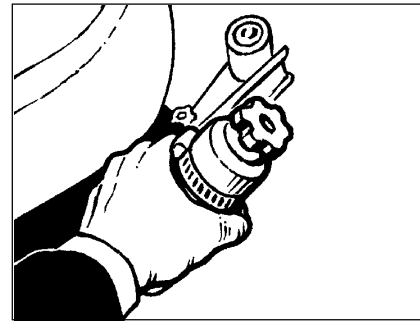

Figure 43
- Unscrew the drain plug and empty the recovery tank (see figure 43).